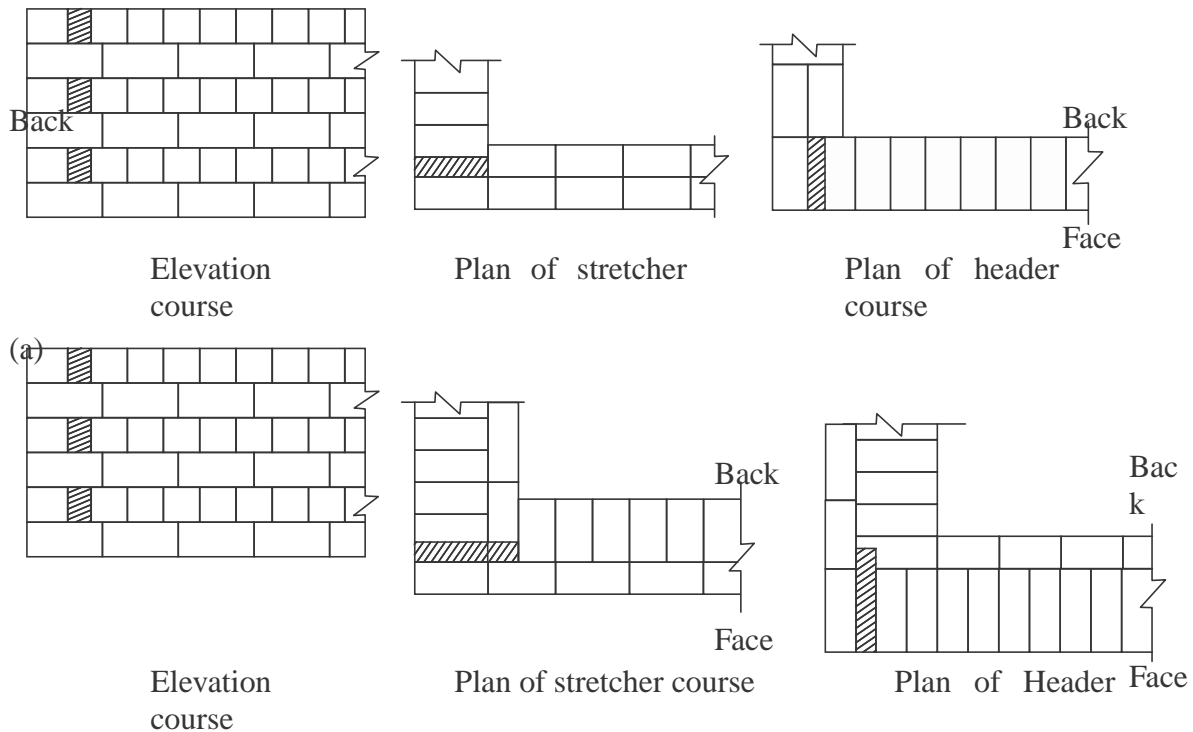

Fig. 2.6.3 English bond
3. English Bond: In this alternate courses consist of headers and stretchers. This is considered to be the strongest bond. Hence it is commonly used bond for the walls of all thicknesses. To break continuity of vertical joints a brick is cut lengthwise into two halves and used in the beginning and end of a wall after first header. This is called queen closer. Figure 2.6.3 shows typical one brick and one and half brick thick wall with English bond.